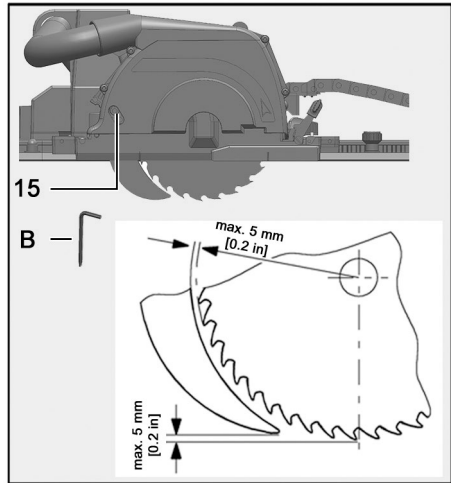

Fig. 8: Distance riving knife to saw blade
- Do not exceed the maximum distance to the saw blade (see Fig.. 8).